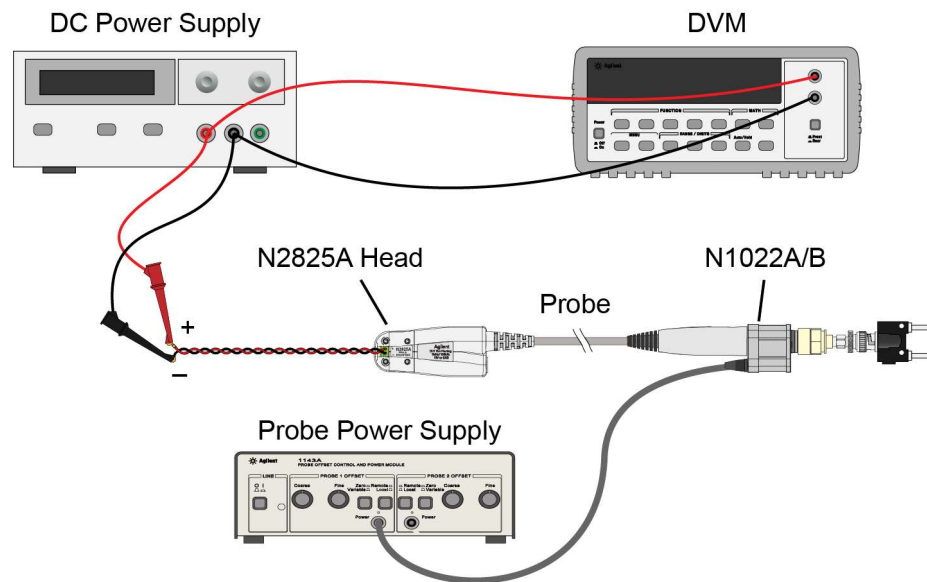

Figure 51 Test Setup for Measuring V_{in}
- 1 Snap an N2825A head onto the N2820/1A probe and connect the test equipment as shown in Figure 51. Be sure to connect the positive side of the DC supply to the red lead on the N2825A head.
- 8** Connect the multimeter on the DC power supply as shown in **Figure 51** on page 103.